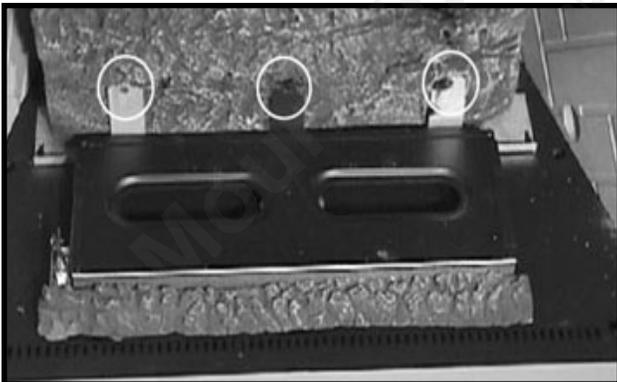

Figure 26
4. To remove the back log, remove three screws and carefully lift the log off. See Figure 26.